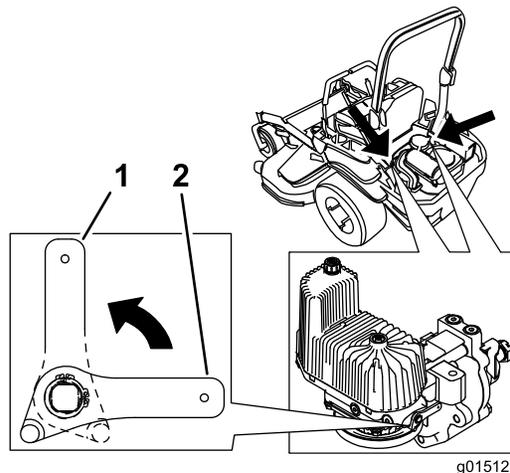

Figure 43
3. Rotate the release-valve levers vertically to push the machine (Figure 43).
5. Rotate the release valve levers horizontally to run the machine (Figure 43).